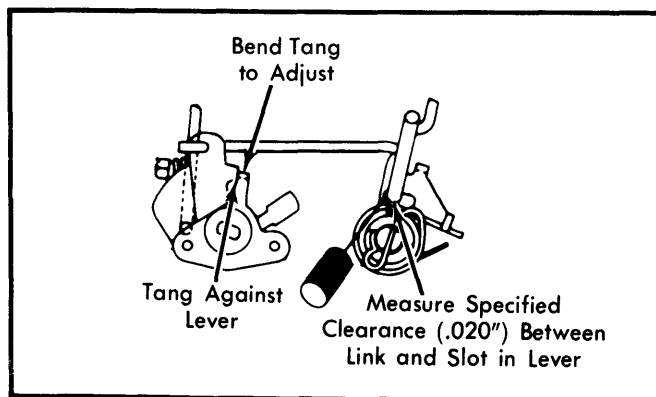

Fig. 12 Adjusting Secondary Throttle Closing Linkage
1) Engine idle speed must be correctly adjusted. Hold choke valve wide open and make sure fast idle cam follower is off fast idle cam steps. See Fig. 12.